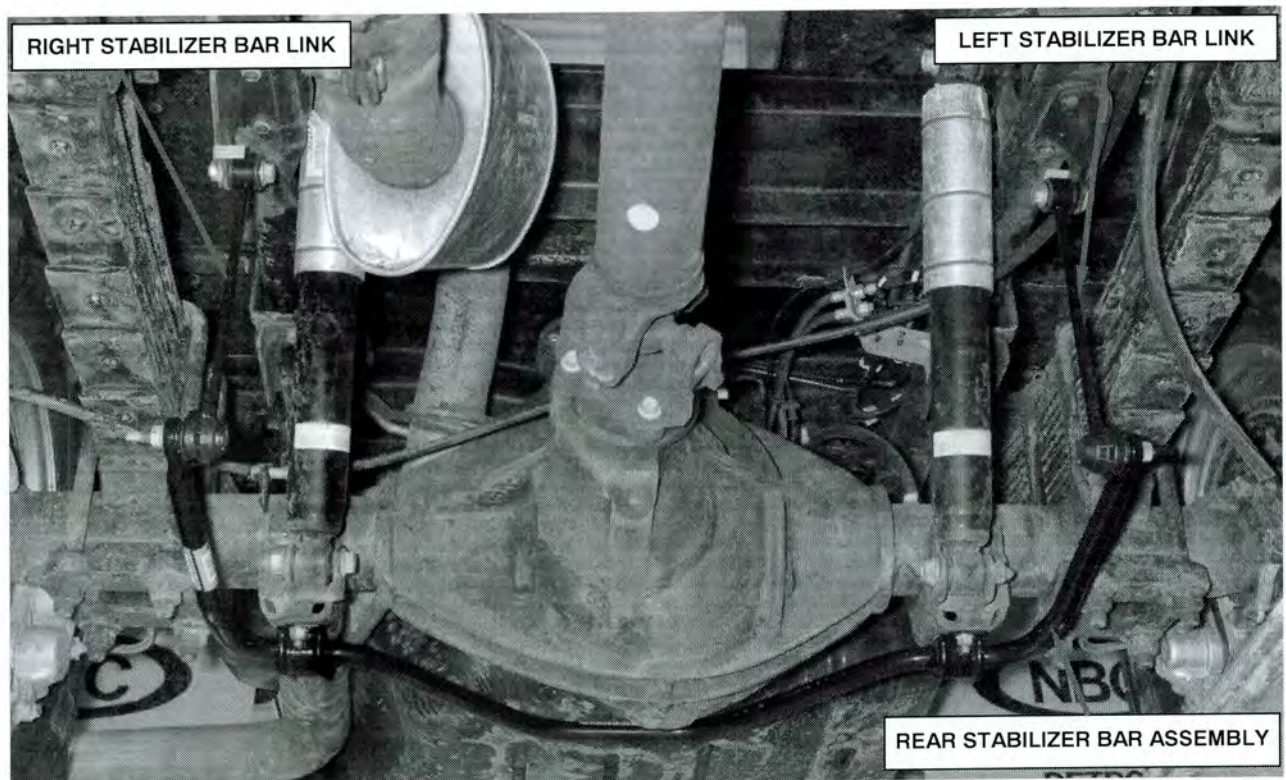

Figure 1 – Rear Stabilizer Bar Assembly Installed
1. Look under the rear of the vehicle and inspect the vehicle for a rear stabilizer bar assembly (Figure 1).